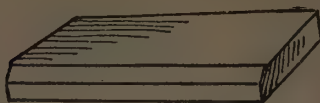

FIGURE 10
*Chamfering and beveling* are somewhat similar operations. They consist in cutting the edges of a piece of wood, as shown in Figs. 10 and 11.